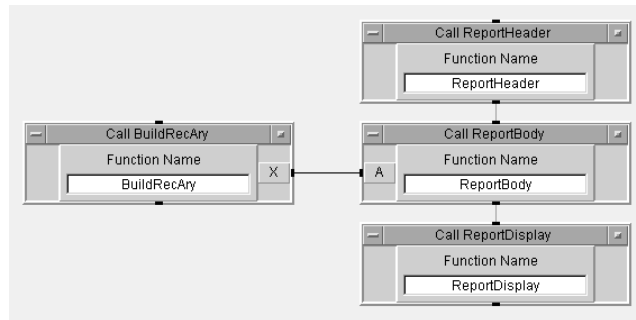

Figure 14.1. Report.vee from the “Top Level”
4. Configure four Menu Bar => Device => Call objects; label and connect these objects as shown in Figure 14.1; size to fit your Main window.